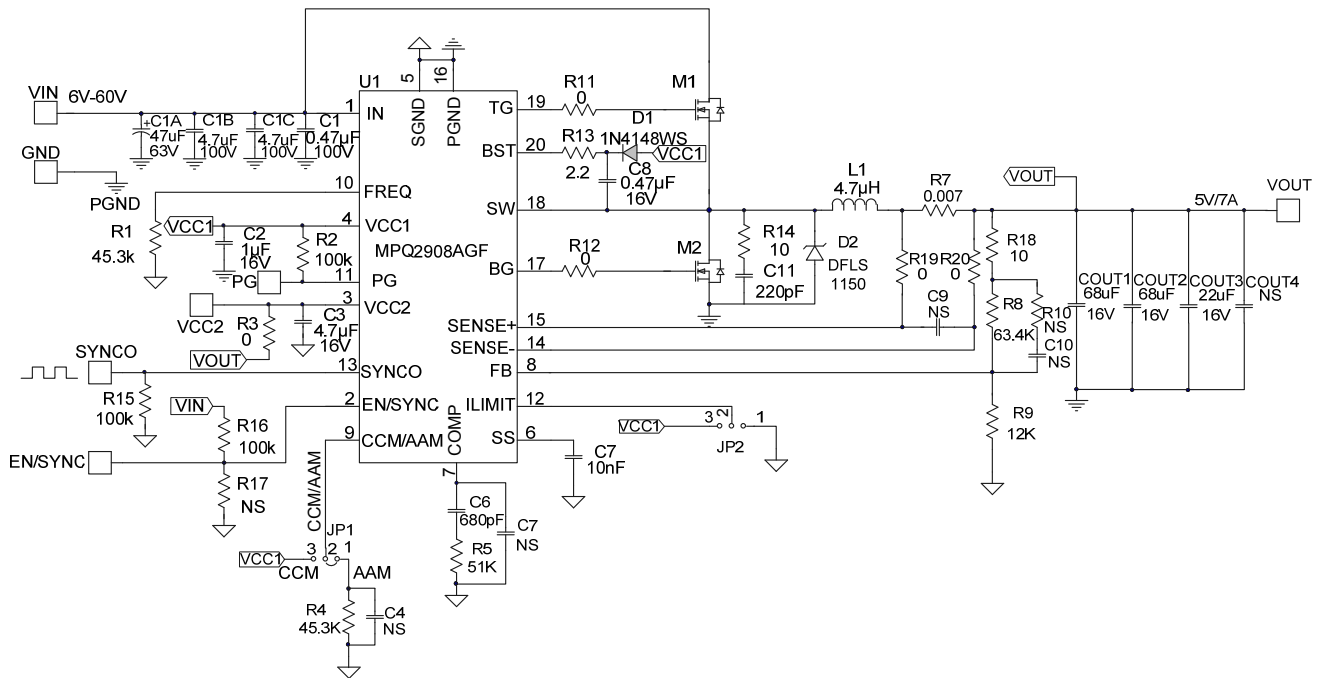

Figure 13: 5V Output Application Circuit for TSSOP Package
- 6) The recommended PCB layout is based on Figure 13.
Updated the BST capacitor value to “0.47 μ F” in Figures 13–16	29–30